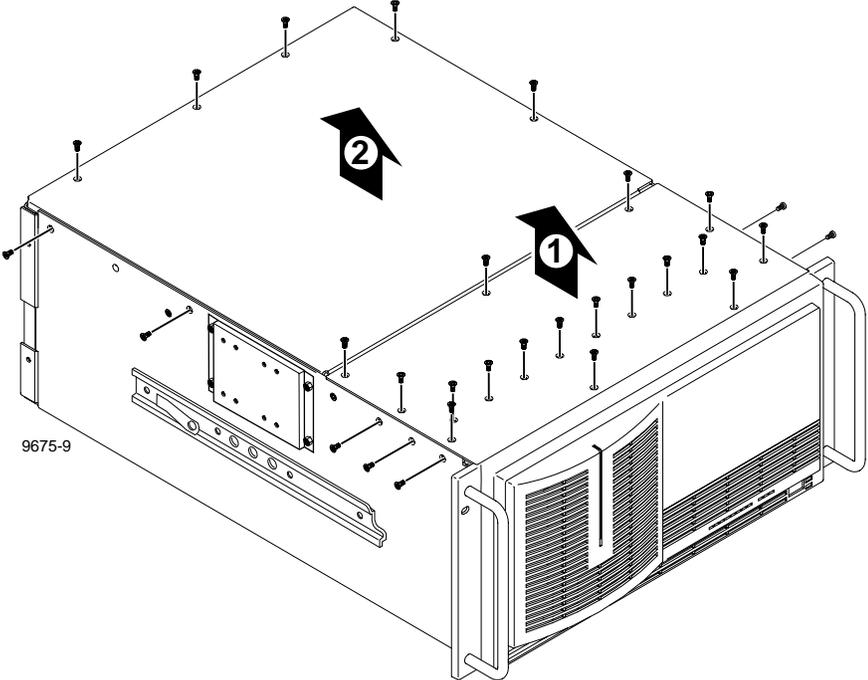

Figure 2. Removing the front and rear chassis covers
3. Use the Torx tool with the T10 tip to remove the top screws from the front chassis cover (❶ in Figure 2) and use the T15 tip to remove the round-headedside screws. Set the cover aside.
4. Use the Torx tool with the T10 tip to remove the rear chassis cover (❷ in Figure 2). Set the cover aside.
1. Use the Torx tool with the T10 tip to remove the exterior screw (❶ in Figure 2) that secures the rear board hold-down bracket.
2. Lift the bracket (❷ in Figure 2) up and out of the chassis and set it aside.
3. Use the Torx tool with the T10 tip to remove the interior screw (❸ in Figure 2) that secures the front board hold-down bracket.
4. Lift the bracket (❹ in Figure 2) up and out of the chassis and set it aside.